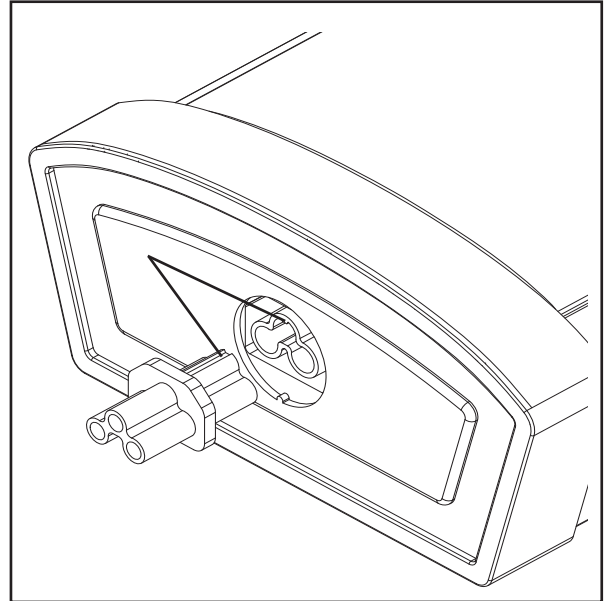

Figure 6
Note: Fixture orientation is important- make sure all the linked fixtures are oriented the same way by checking that the switches (5) are on the same side. The Row connector must connect to a Keyed port (6) on one fixture and to a non-keyed port (7) on the other fixture. See Figures 6 & 7
6. Remove the Fixture Housing (1) and using a drill with a 1/16" drill bit, make 4 small pilot holes at the marked screw hole locations. If drill bit does not encounter a stud or wood surface, use toggle bolts or other suitable fasteners depending on structural conditions. If drill bit does encounter wood surface, use wood screws.
8. Install diffuser (2) - Note: remove tape from diffuser prior to installing diffuser. Starting at one end of housing, insert diffuser slot onto edge of housing. Carefully squeeze diffuser to engage opposite side with housing. Continue this action down length of diffuser until fully installed onto housing.